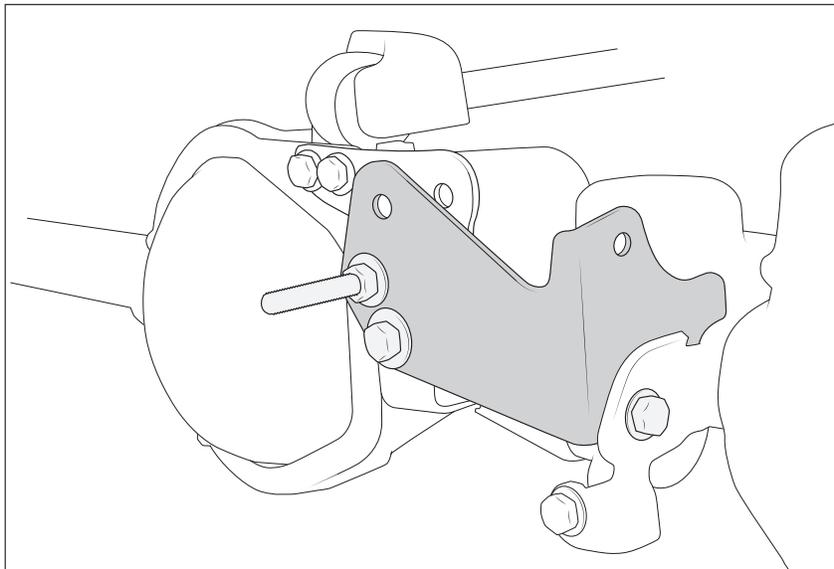

Figure 23
17. Attach the front part of the track bar bracket with the supplied hardware (Fig. 23).